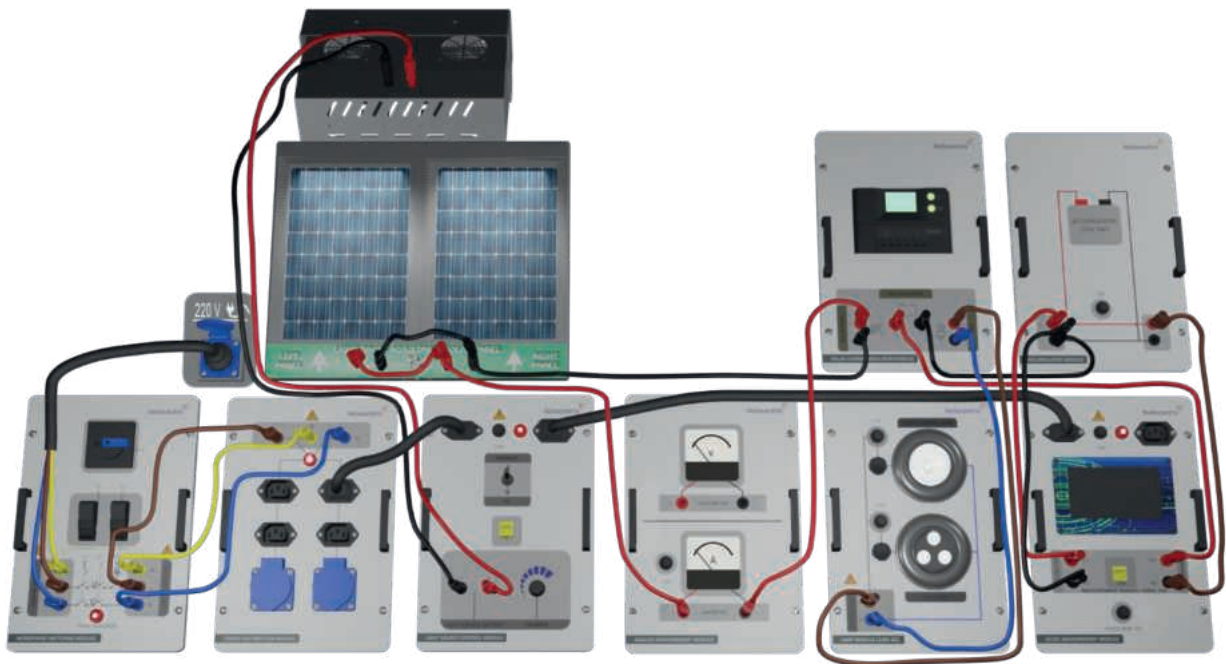

Figure-66. Installation Image of Installation of a Basic Photovoltaic System with DC Load
1. Set up the connection as specified in Figure-66. Ensure a constant level of light in the laboratory to maintain an average scenario. Note that any changes to the positions of the lamps or curtains may affect the experimental outcomes.